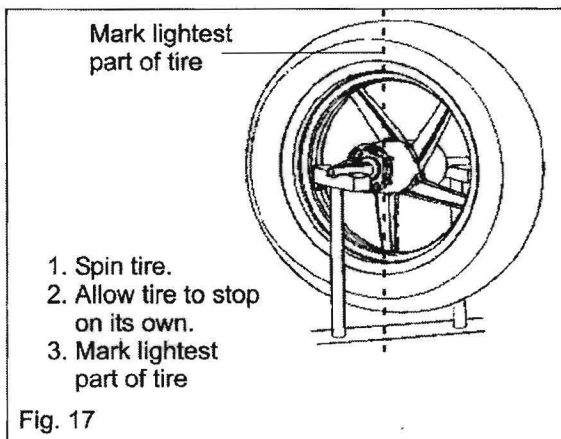

Fig. 17
4. Repeat the spinning process to verify the heaviest part of the wheel. (Fig. 17)